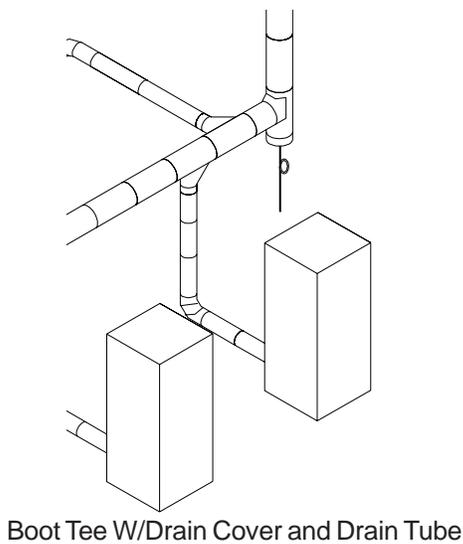

Fig. 6a
- A Saf-T Vent In-Line Drain Section or Boot Tee with a separate Drain Tee Cover is strongly recommended. Install this drain fitting as close to the appliance flue collar as possible. (See Fig. 6a)
- Use the Boot Tee at a transition from horizontal to vertical, and attach the Drain Tee Cover to the appropriate leg of the tee. (See Fig 6a)
- A Condensate Drain Tube Kit is available to direct the condensate to an appropriate location, i.e. floor drain or vented sanitary sewer connection. A trap loop must be formed into the drain hose and must be a diameter that is at least four times the appliance's rated stack pressure in inches of water column or 3 inches, whichever is greater. Secure the loop with a cable tie. Prior to final assembly the trap loop must be 'primed' by pouring a small quantity of water into the drain hose. (See Fig. 6a)